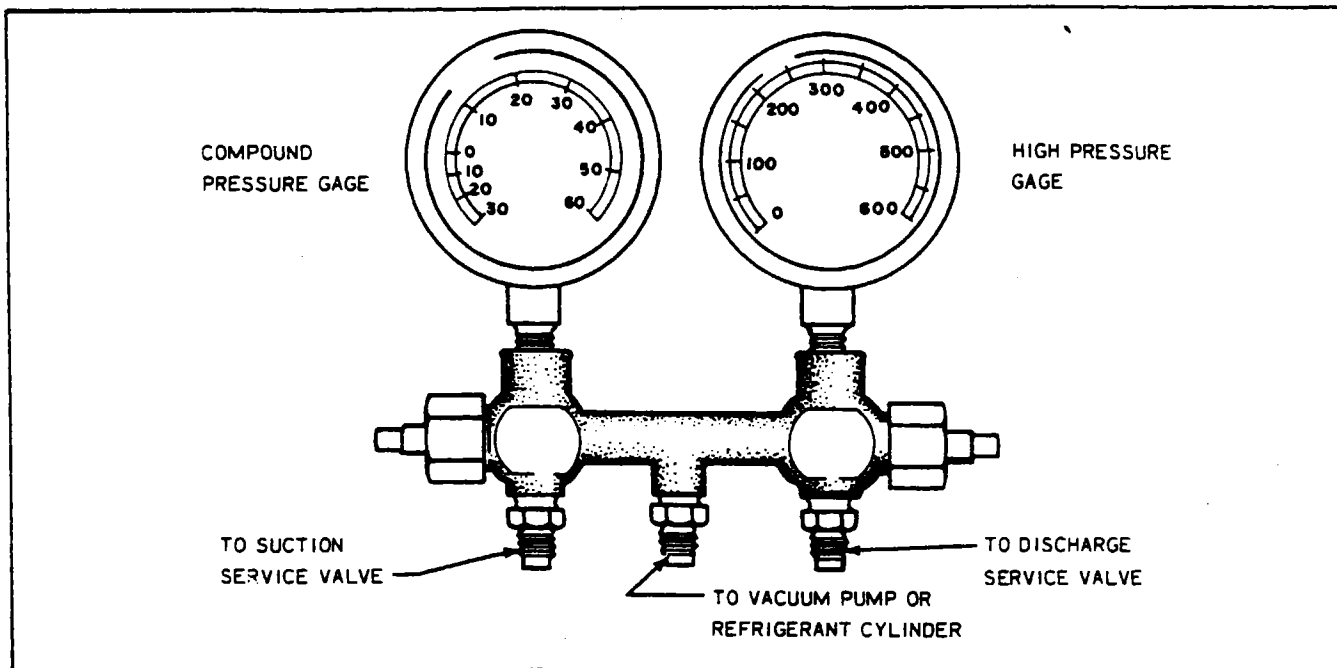

Figure 14-25. Test Gauge and Manifold Set
14-99. TEST GAUGE AND MANIFOLD SET. The proper testing and diagnosis of the air conditioning system require that a manifold gauge set be attached into the system. This set consists of two gauges mounted to a manifold. One gauge is a high pressure gauge used in the discharge side of the system. The other is a low pressure gauge used in the suction side of the system. The manifold is a device having fittings for both gauges and connection hoses with provisions for controlling the flow of refrigerant through the manifold. See Figures 14-25 and 14-26.
Cracking the hand valve, in the counterclockwise direction, opens the system to the middle service port of the manifold set. This is desirable only when it is necessary to let refrigerant out or into the system. Refer to Figure 14-25 and 14-26.
- c. The high and low manifold hand valves should be in the closed position. (Refer to Figures 14-25 and 14-26.)